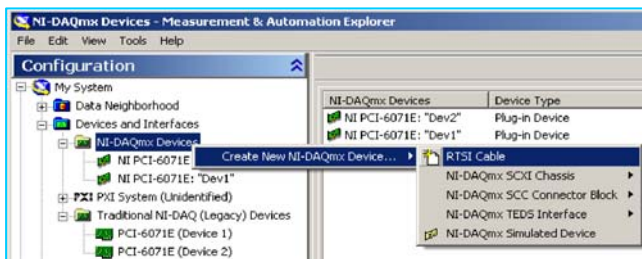
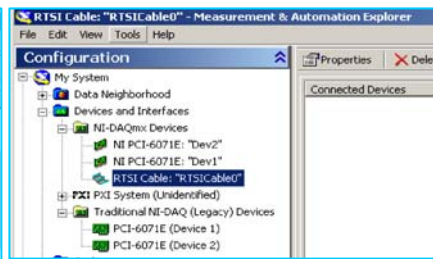

Figure. 1-14
Figure. 1-15
3. Right-click [NI-DAQ mx Devices], select [Create new Ni-DAQmx Devices], then click [RTSI cable] (Figure. 1-14). [RTSI cables;”RTSICable0”] appears as seen in the Figure.1-15.